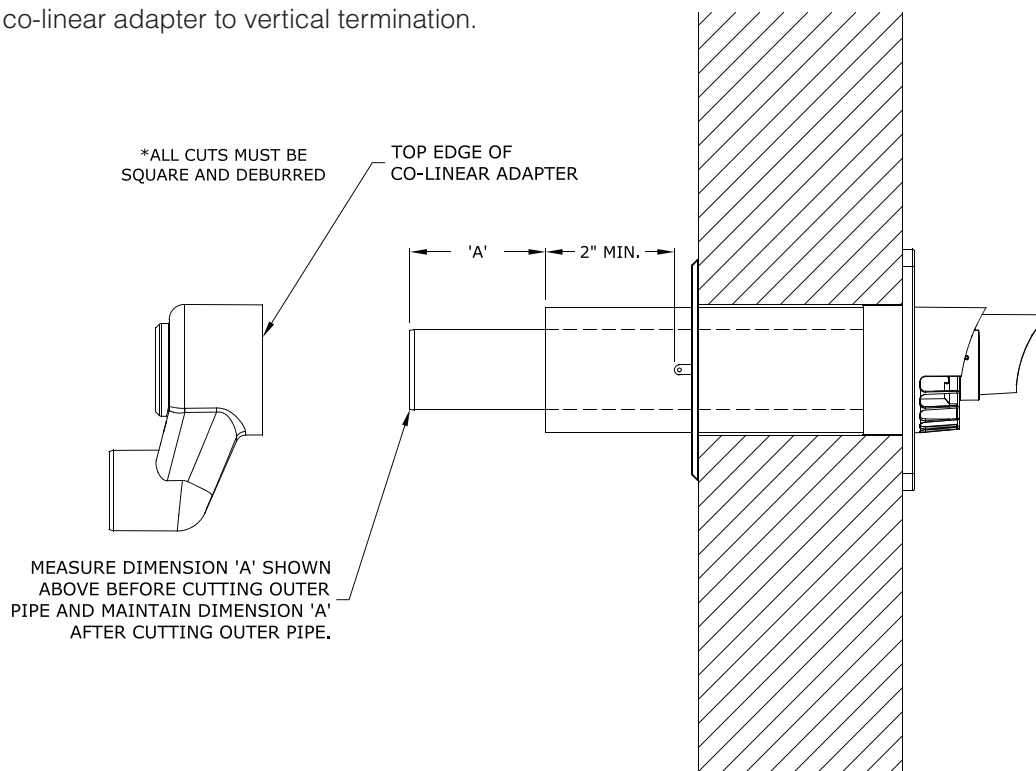

Figure 7.38: Cutting DuraVent PolyPro Horizontal Concentric Vent Terminal
- If desired, the terminal can be shortened. Mark the desired location of the cut on the outer pipe no closer than 2" from the edge of the tab on the interior wall plate. Prior to cutting outer pipe measure dimension 'A' of the inner pipe as shown in Figure 7.38 and maintain this dimension after cutting the outer pipe. All cuts must be square and de-burred.